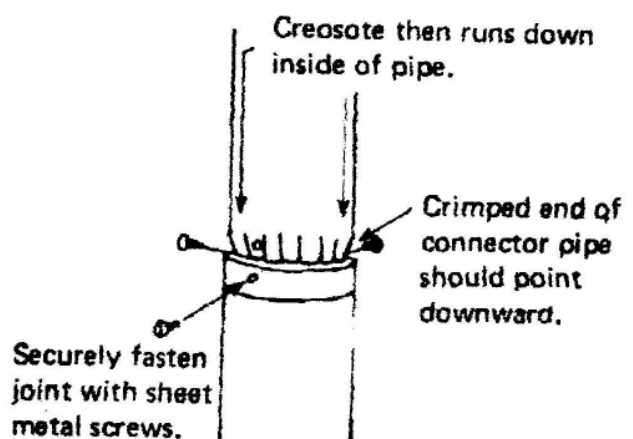

Figure 1. Proper connection of stovepipe
4. Connect flue collar to the stove and adapter . The crimped end of the stove pipe must be installed facing down to fit inside the adapter. Figure 1, page
5. Use three (3) sheet metal screws at each joint of stove pipe and adapter to firmly hold stove pipe together. Use 6" round black/blue stove pipe (Listed to UL 103, Type HT and evaluated to CAN/ULC-S629-M87) **NOT** galvanized pipe. **DO NOT CONNECT THIS STOVE TO ANY AIR DISTRIBUTUIN OR DUCT SYSTEM.**
9. It is recommended that no more than two (2) 90 degree bends be used in the stove pipe installation.